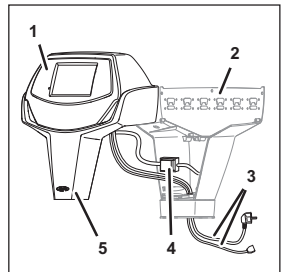

Fig. 35
2. Disconnect the electrical cables (Fig. 35/3).
3. Lift and remove the front panel (Fig. 35/5) with taxi cab hood (Fig. 35/1) from the rear panel (Fig. 35/2) in a forward motion.
4. Disconnect the electrical cables (cable no. 220046597) on the voltage transformer (Fig. 35/4).
27. Connect the electrical cables (cable no. 220046597) to the voltage transformer (Fig. 35/4).
28. Position the front panel (Fig. 35/5) with taxi cab hood (Fig. 35/1) on the rear panel (Fig. 35/2).
30. Connect the electrical cables (Fig. 35/3).